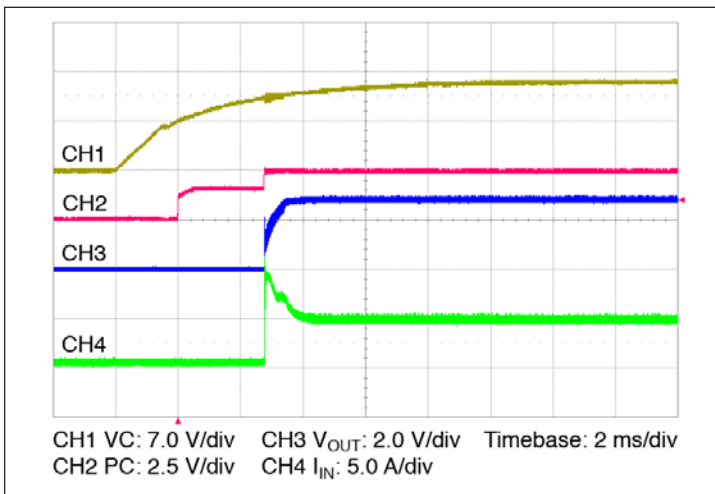

Figure 11 — Start up from application of VC;
- **Stand-alone operation (VC applied after V_{IN}):** In this case the VTM output will begin to rise upon the application of the VC voltage (See Figure 11). The Adaptive Soft Start Circuit (See Section 11) may vary the output rate of rise in order to limit the inrush current to its maximum level. When starting into high capacitance, or a short, the output current will be limited for a maximum of 120 μ sec. After this period, the Adaptive Soft Start Circuit will time out and the VTM module may shut down. No restart will be attempted until VC is re-applied or PC is toggled. The maximum output capacitance is limited to 16000 μ F in this mode of operation to ensure a successful start.